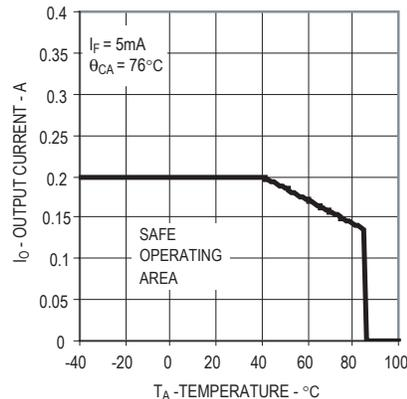
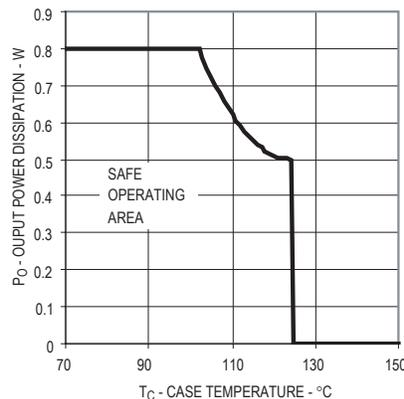

Figure 1. Maximum Average Output Current Rating vs Ambient Temperature
Figure 2. Output Power Derating vs Case Temperature
- For derating, refer to Figure 1 and 2.
Derating curves are shown in Figures 1 and 2. Figure 1 specifies the maximum average output current allowable for a given ambient temperature. Figure 2 specifies the output power dissipation allowable for a given case temperature. Above a case temperature  $102^\circ\text{C}$ , the maximum allowable output current and power dissipation are related by the expression  $R_{ss}=P_o(\text{max})/I_o(\text{max})^2$  from which  $R_{ss}$  can be calculated. Staying within the safe area assures that the steady state MOSFET junction temperature remains less than  $150^\circ\text{C}$ .